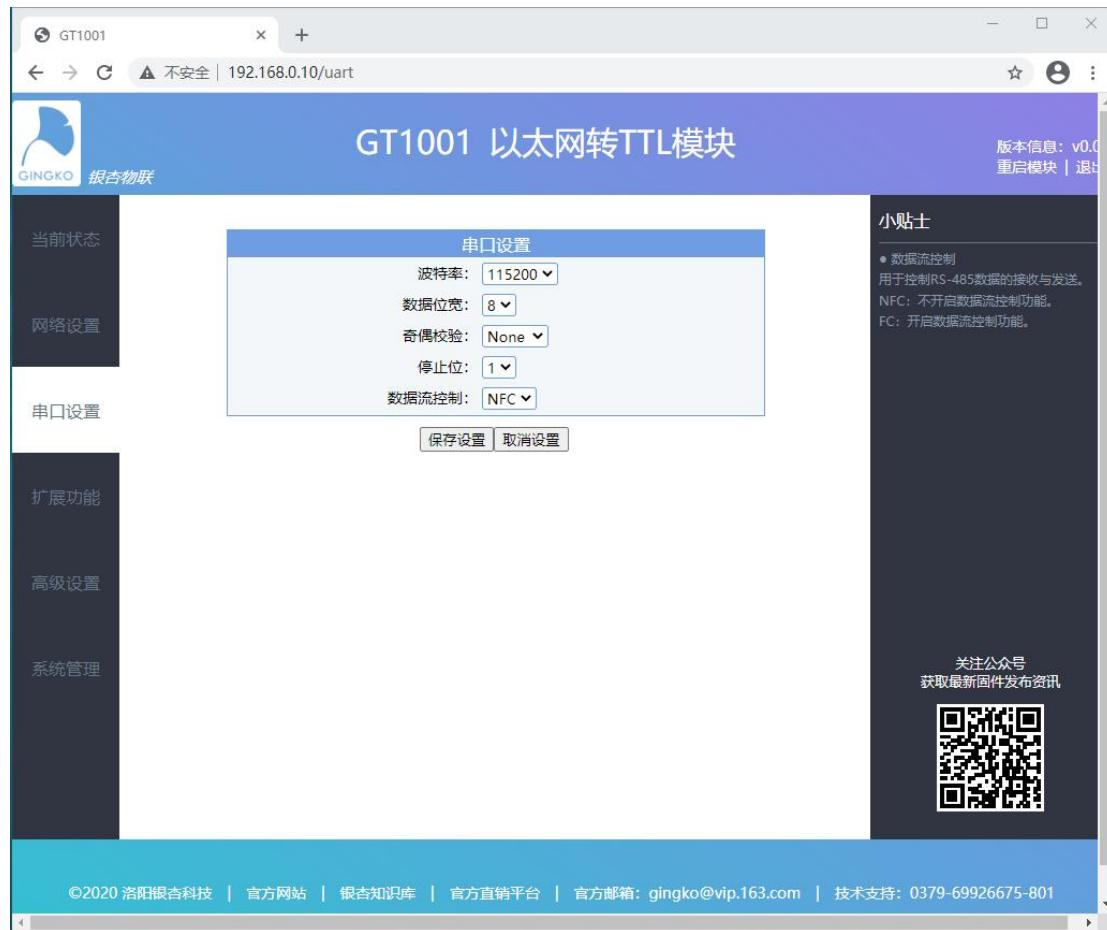

Figure 7-4 Serial port parameter setting.
(4) In the "Serial port setting" item, you can set the relevant parameters of the serial port, as shown in Figure 7-4. After setting, click to save the settings.